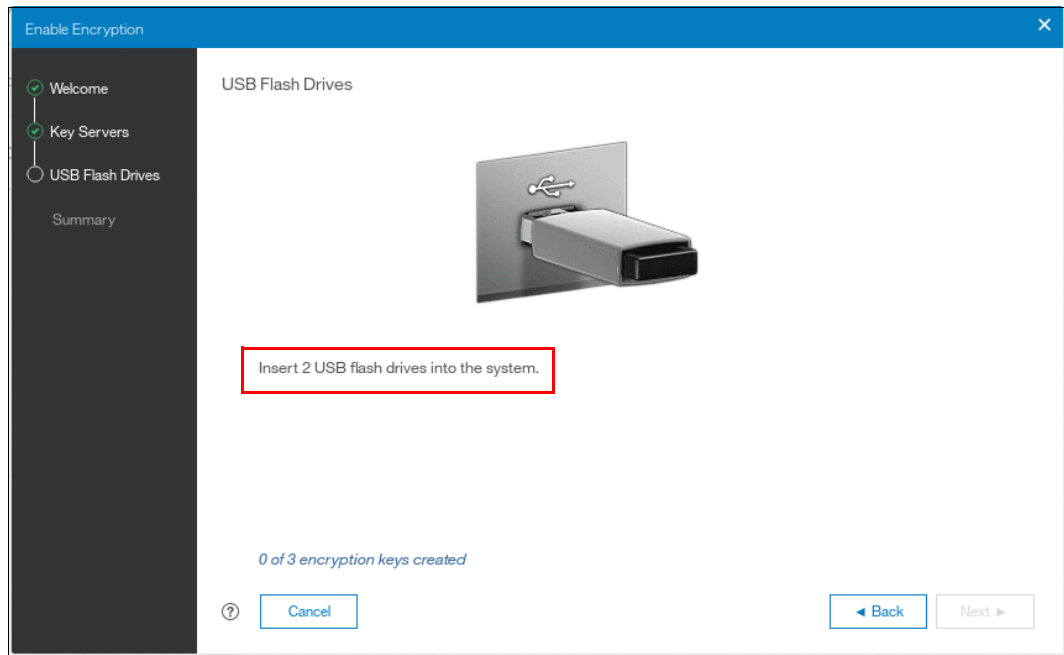

Figure 13-25 Waiting for USB flash drives to be inserted
2. If there are fewer than 3 USB flash drives inserted into the system, you will be prompted to insert additional drives, as shown in Figure 13-25 on page 724. The system will report how many additional drives need to be inserted.